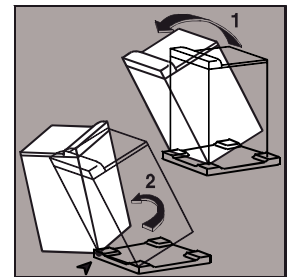
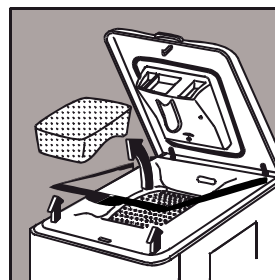

Fig. 2
Fig 3
- Tilt the washing machine backwards, rotate it by a quarter of a turn on one of its corners to remove the transport base (fig. 2).
- Open the washing machine lid and remove the transport packing and plastic films. Close the lid (fig. 3).
- Screw on the bottom fitting of the water inlet hose as shown in fig. 2 and fig. 3.